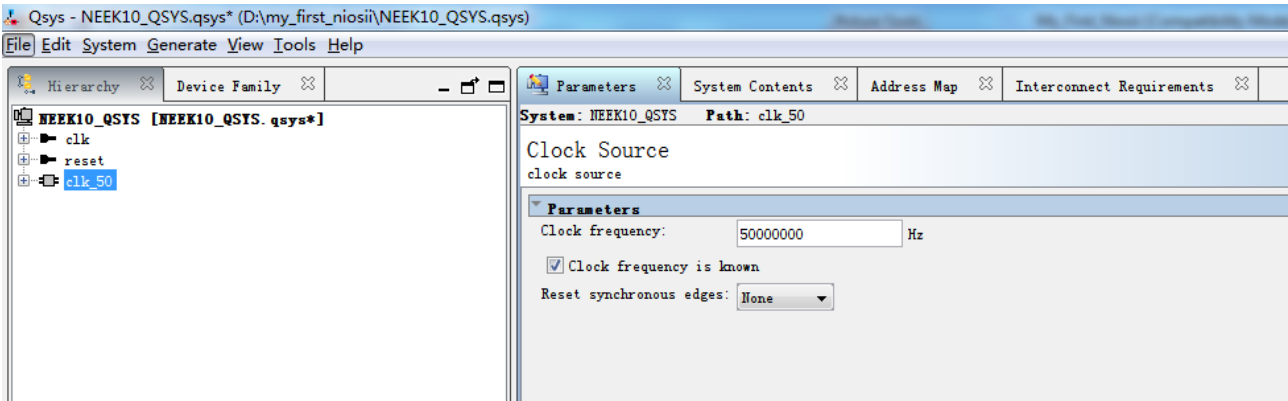

Figure 1-13 Rename the clock source and set it to 50000000 Hz
7. Right-click the **clk_0** component and rename it to **clk_50**. Double click **clk_50** to set the clock frequency to 50000000 Hz, as shown in **Figure 1-13**.